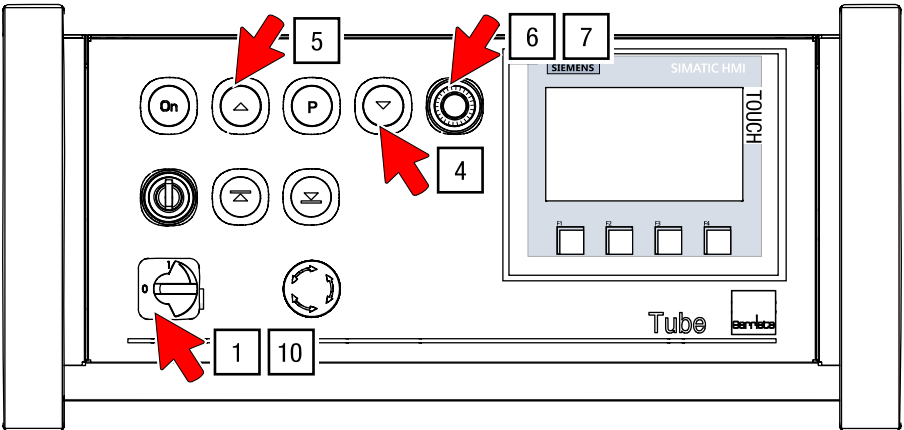

Fig. 48: Operating the roller screen – buttons on the control unit
1. Turn the main circuit breaker to the “I” position to switch on the control unit (see Fig. 48).
4. Press and hold the Down button to lower the roller screen (see Fig. 48).
5. Press and hold the “Up” button to raise the roller screen (see Fig. 48).
6. Turn the potentiometer anticlockwise to reduce the speed ($v_{\max}$ to $v_{\min}$; see Fig. 48).
7. Turn clockwise to increase the speed ($v_{\min}$ to $v_{\max}$; see Fig. 48).
9. Press the "P" button until the position is reached (see Fig. 48).
10. Switch off the control unit after use and secure it at the main circuit breaker with a padlock (see Fig. 48).